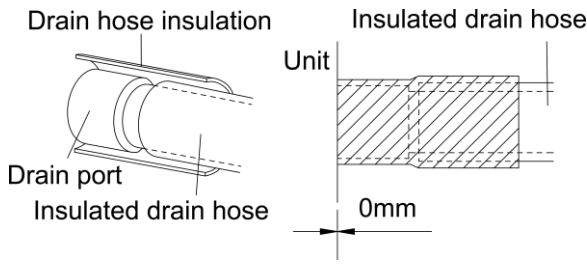

Figure 3-1-14
(9) Be sure to insulate where the drain port and the drain hose is connected. (Figure 3-1-14)